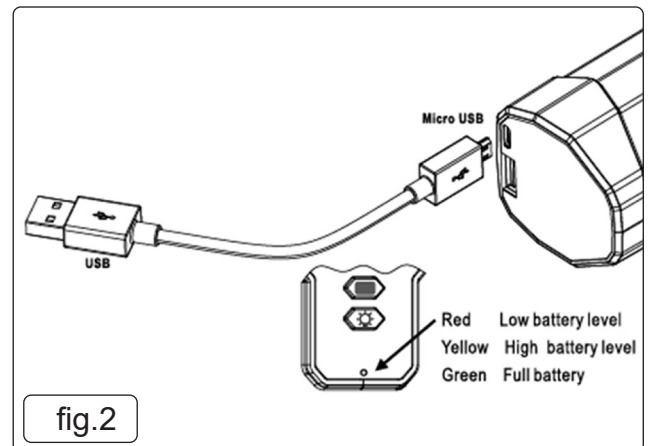

fig.2
4.1.1. Please charge the battery fully before use (fig.2). Especially for the first time or after it is unused for a long time. Charge for about 4 hours for full charge. Other functions of the product are not available during charging.